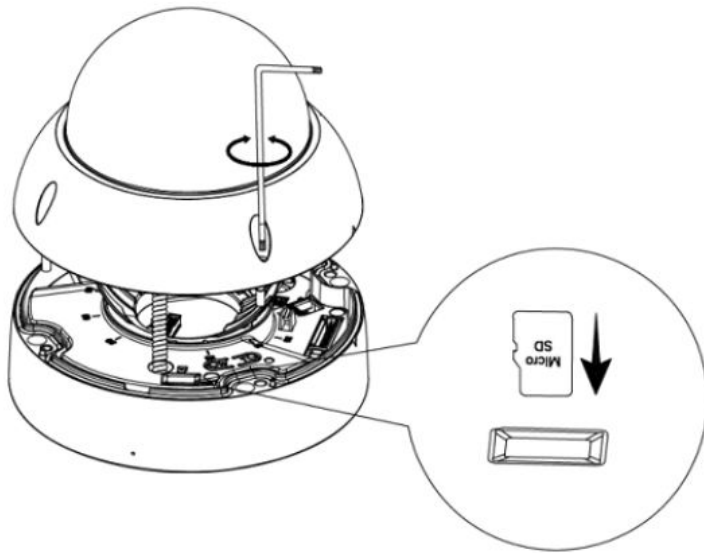

Figure 2-8
**Step 1** Remove the Dome from the camera body. See Figure 2-8. Skip to Step 3 if only installing SD card.
**Step 3 (If installing SD Card)** Adjust the Micro SD Card to a proper direction shown in Figure 2-8.